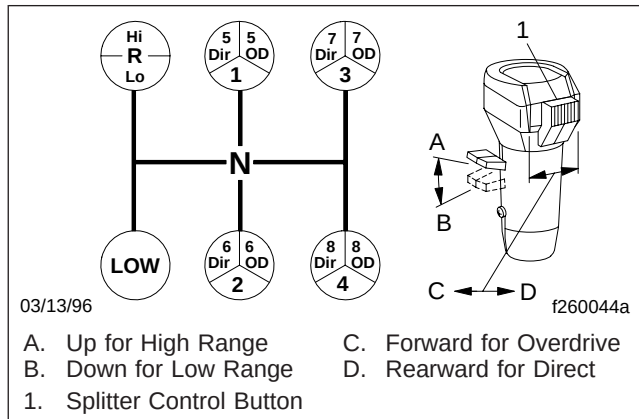
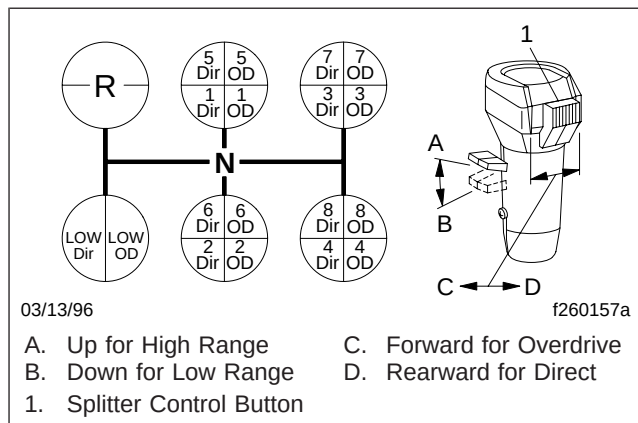

Fig. 8.4, Eaton Fuller 13-Speed RTO Model Transmissions Shift Patterns
Fig. 8.5, Eaton Fuller 18-Speed RTLO Model Transmission Shift Patterns
Eaton Fuller 13-speed RTO model transmissions have thirteen forward speeds and two reverse speeds. Each transmission consists of a 5-speed front section, and a 3-speed auxiliary section. The auxiliary section contains low- and high-range ratios, plus, an overdrive splitter gear. See Fig. 8.4 for the shift patterns.
- Position the range preselection lever down, into low range. See Fig. 8.4 or Fig. 8.5.
- Make sure the splitter control button is in the direct (rearward) position. See Fig. 8.4 or Fig. 8.5.
To shift from low direct to low overdrive, move the splitter control button (Fig. 8.5) into the overdrive (forward) position, then immediately release the accelerator. Press and release the clutch
Shift upward from low to 1st gear, 2nd, etc. until 4th gear, double-clutching between shifts, and accelerating to 80 percent of engine governed speed. See Fig. 8.4.
Shift upward from low overdrive to 1st direct by first moving the splitter control button into the direct (rearward) position (Fig. 8.5). Move the shift lever, double-clutching, to the 1st gear position.
To shift from 5th direct to 5th overdrive, move the splitter control button (Fig. 8.4) into the overdrive (forward) position, then immediately release the
To shift from 5th direct to 5th overdrive, move the splitter control button (**Fig. 8.5**) into the overdrive (forward) position, then immediately release the accelerator. Press and release the clutch pedal. After releasing the clutch, accelerate again.